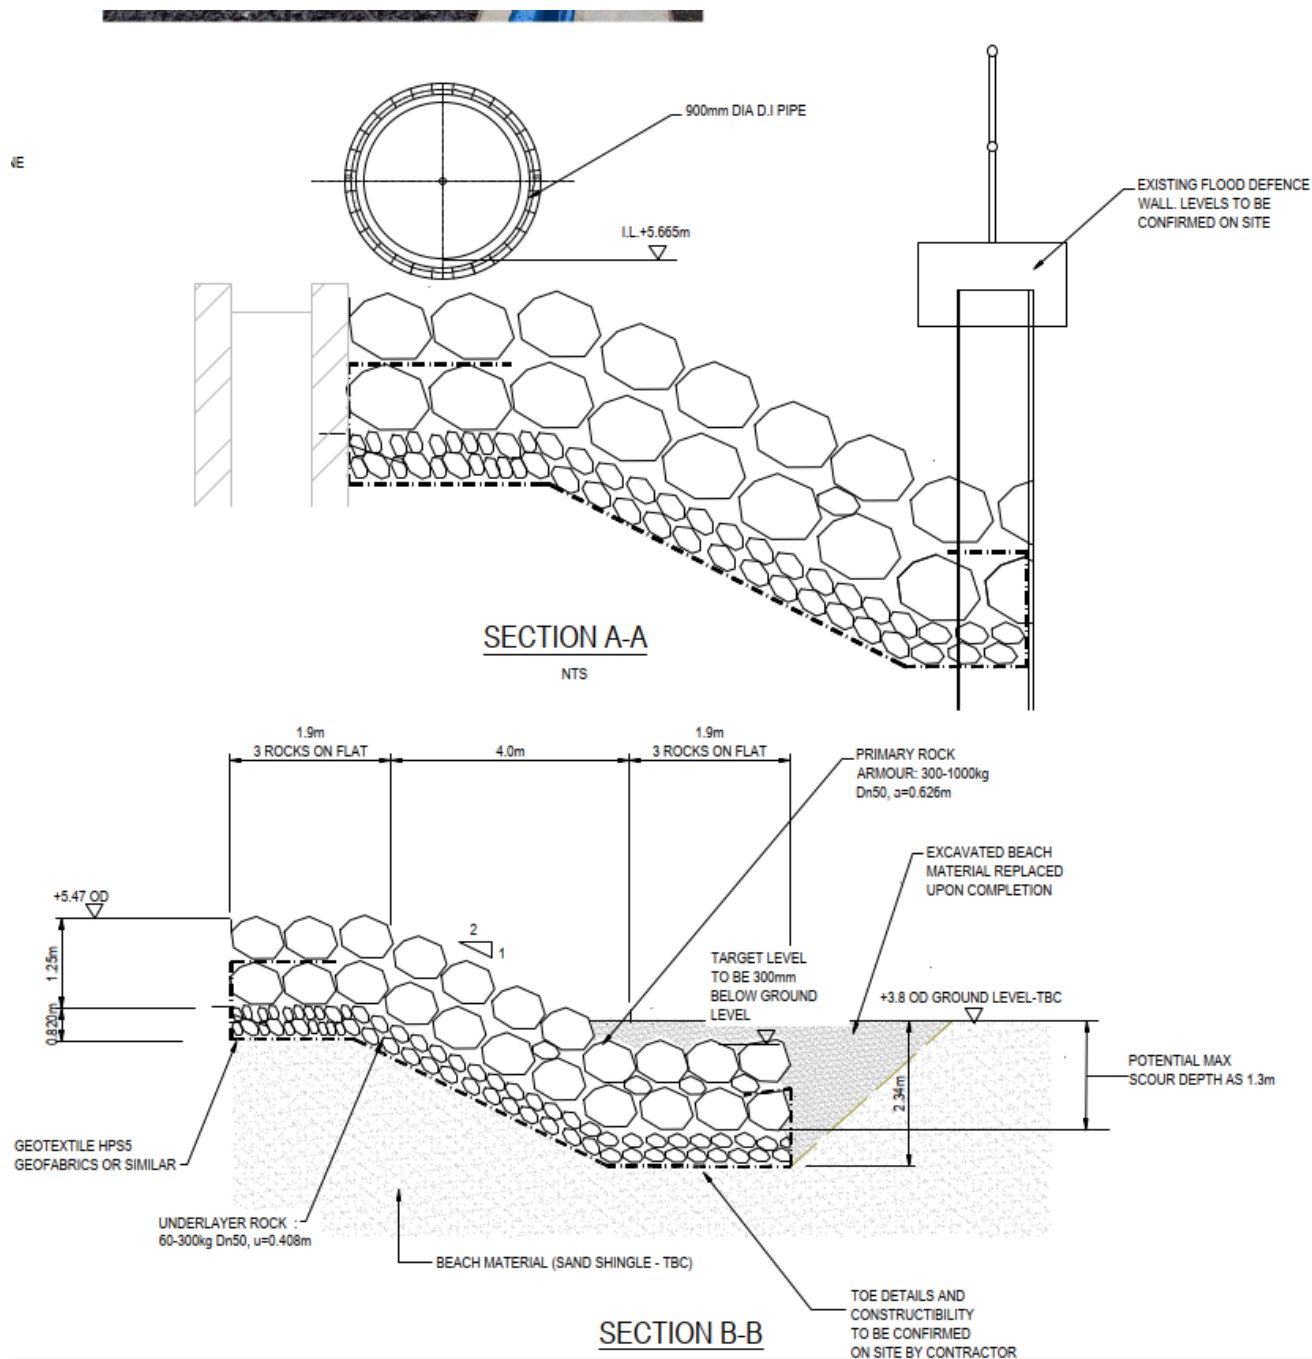

Figure 3, Design showing cross sections of the scour protection to be constructed
- As seen in figure 3, there are 2 sizes of rock to form the scour protection with the underlayer rock material being DN50,u=0.4m and the primary layer of rock being Dn50,u=0.62m.